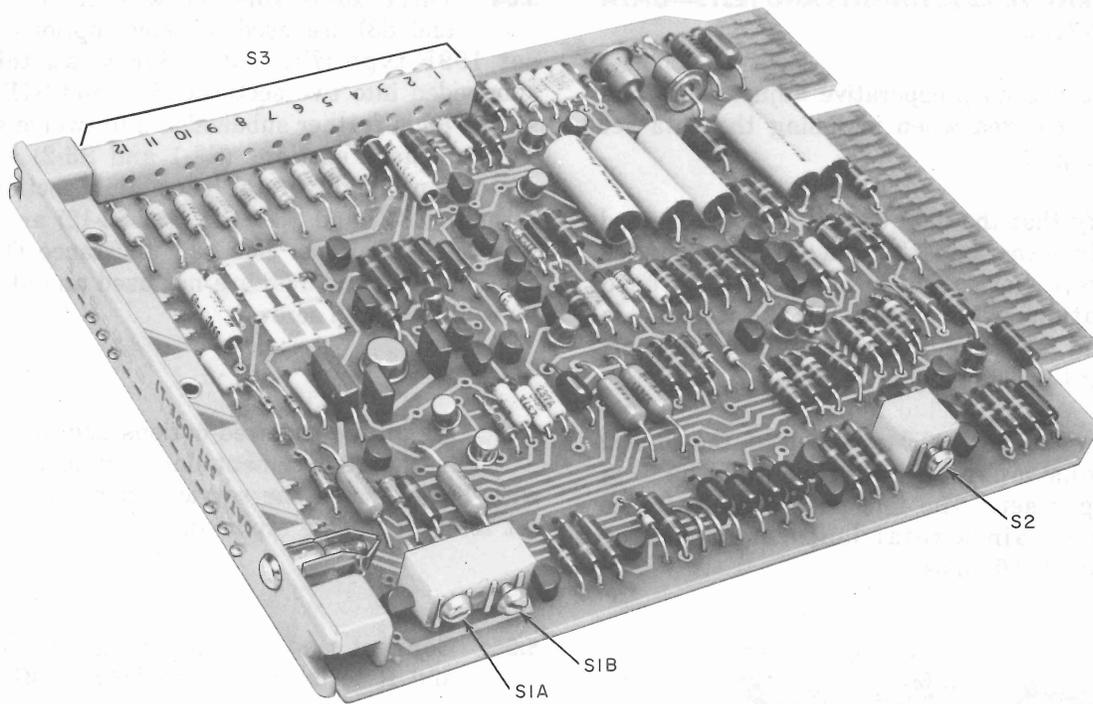

Fig. 23—Data Set 109E-Type—Location of Screw Switches
5.04 Three adjustable screw switches (S1, S2, and S3) are used to select options on data set 109E-type (Fig. 23). Screw switch S1 is subdivided into two sections (S1A and S1B); screw switch S3 is further subdivided into twelve sections. Two of these sections (S3-1 and S3-2) are used for options; eight of the remaining sections (S3-4 through S3-7, and S3-9 through S3-12) are used in selecting the proper line pad resistance (Table F). Sections S3-3 and S3-8 are not used and should not be equipped with screws.